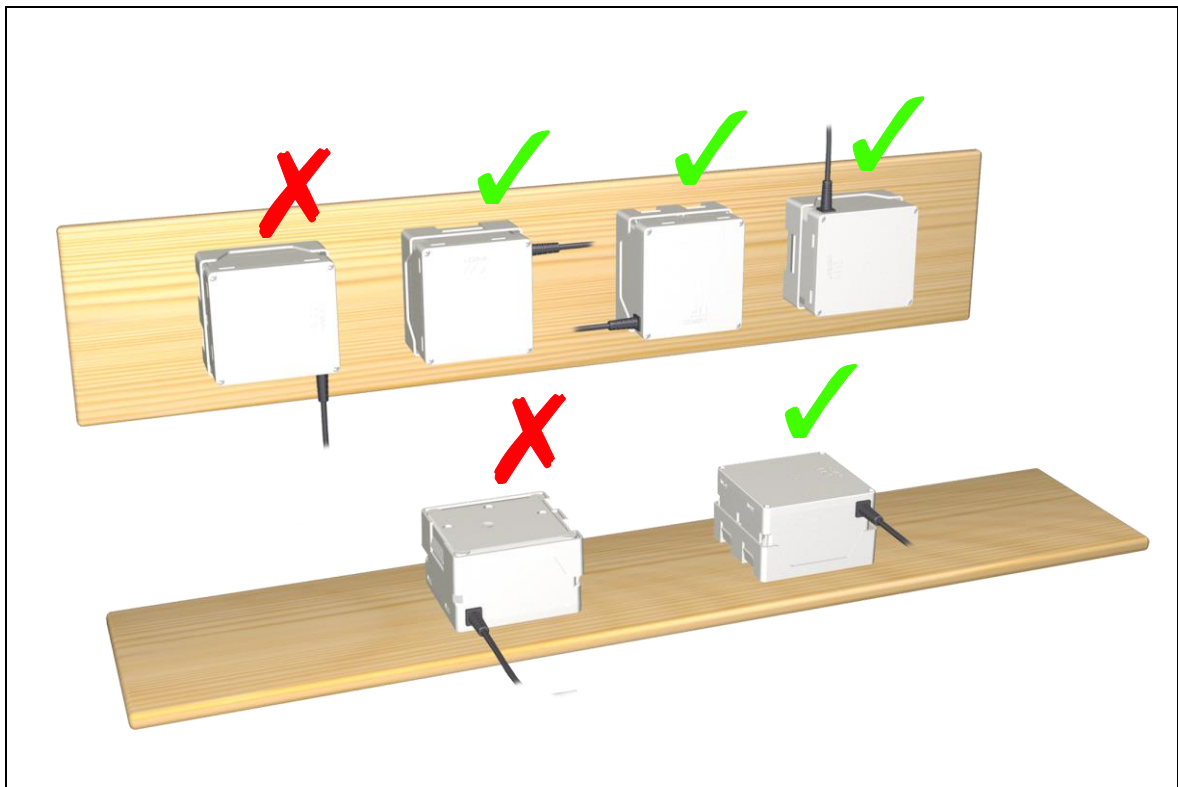

Figure 11 Permitted and prohibited positions when charging the AG7/AG9
<p>The following information is important when mounting the AG7/AG9:</p> <ul style="list-style-type: none"> • Charge the AG7/AG9 completely (for at least 24 hours) before first use. The installed batteries achieve their full capacity only after 5 to 10 discharge cycles. • The air vents on the AG7/AG9 must not be covered during the charging process. • When mounting the AG7/AG9, make sure that it is not lying on its top and the connecting cable is not facing downwards. The AG7/AG9 may only be charged when it is properly positioned (as shown in Figure 11). • Allow the AG7/AG9 to rest for about 1 hour after charging it; this will prolong its lifespan.
- Charge the AG7/AG9 only in its permitted charging position (as shown in Figure 11).
- The AG7/AG9 must **not** be lying on its top (upside down) while it is charging. The connecting cable must **not** be pointing downwards (as shown in Figure 11).